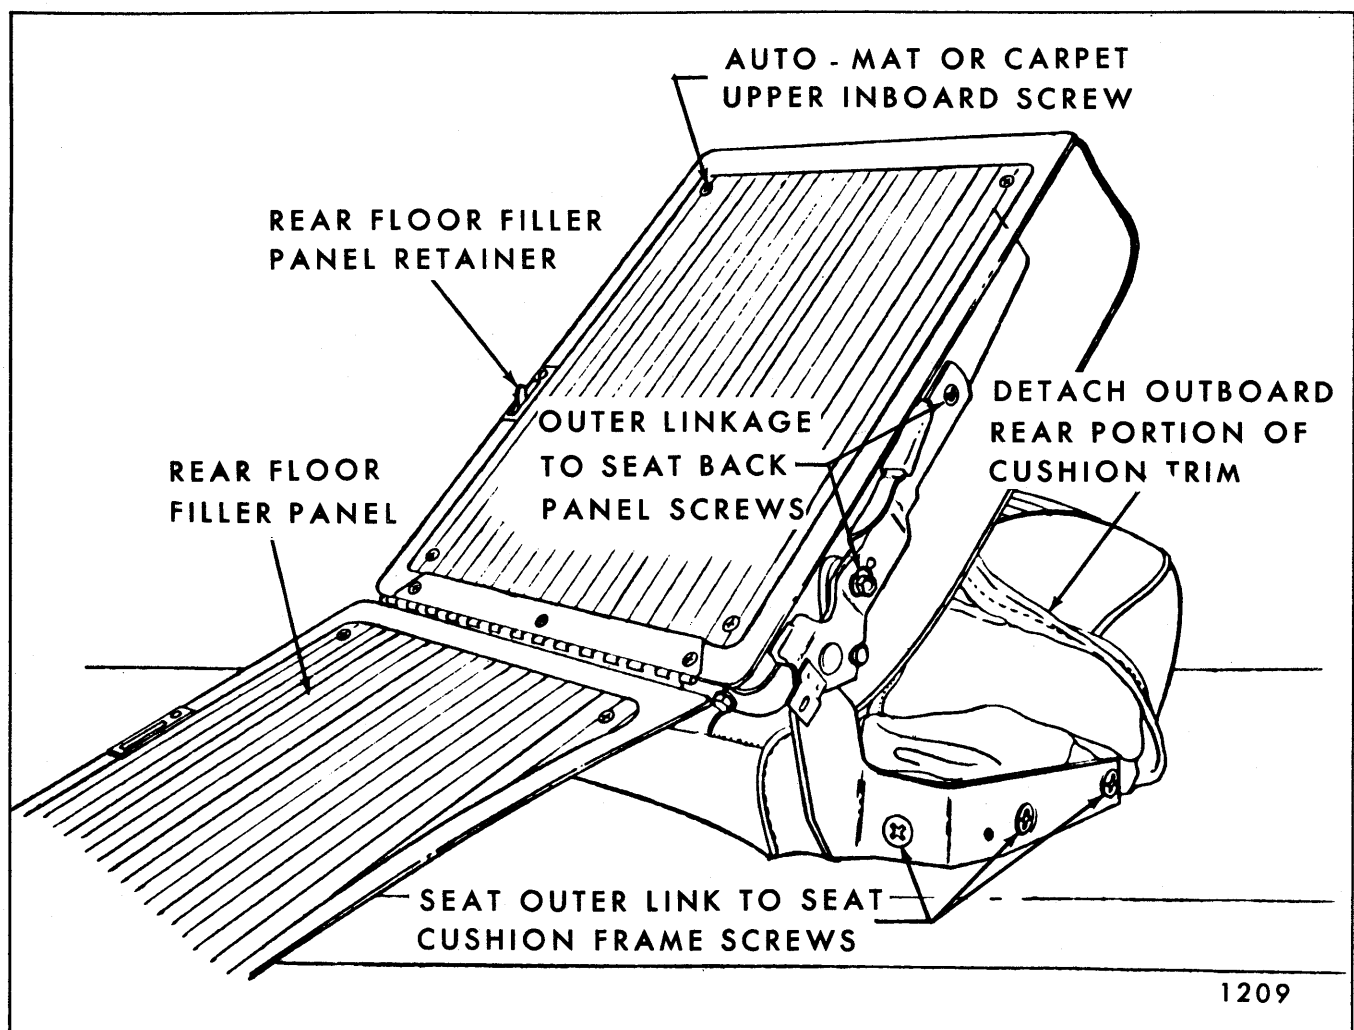

Fig. 10-70—Folding Second Seat Outer Linkage
2. Remove hog rings and detach outboard rear portion of trim sufficiently to remove three screws securing seat outer link to cushion frame (Fig. 10-70).
NOTE: If seat back trim does not readily disengage from seat back panel, fold rear floor filler panel down and remove upper inboard screw securing automat or carpet (Fig. 10-70). Then remove seat back trim assembly.
3. Remove hog rings and detach rear portion of trim sufficiently to remove three screws securing outer linkage to seat cushion frame. (See Fig. 10-70).
4. Remove outer linkage-to-seat back panel attaching screws (see Fig. 10-70); then, remove linkage and seat back catch from seat.
2. Remove outer linkage-to-seat back panel attaching screws (See Fig. 10-70).
3. Install lock handle attaching screw; then, install outer linkage to seat back panel attaching screws (Fig. 10-70).